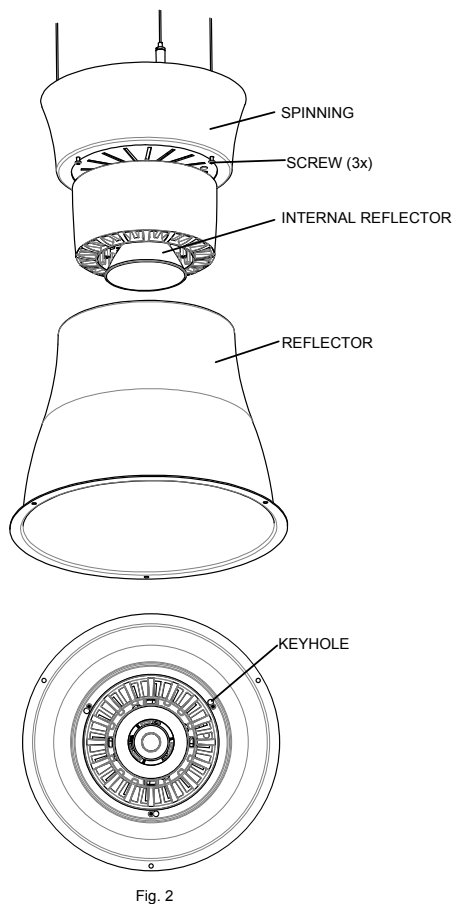

Fig. 2
5. Mount the internal reflector by twisting into place (Fig. 2).
6. Lift reflector into place and twist onto keyholes, tighten screws (3x) to secure (Fig. 2)